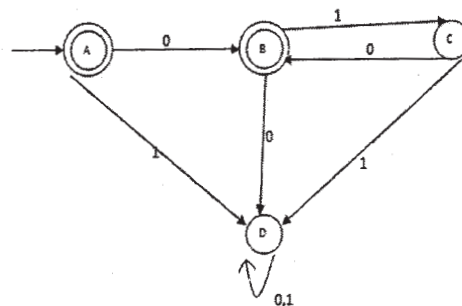

Fig 1
c) Give the Right & Left linear grammar for the following DFA shown in Fig1